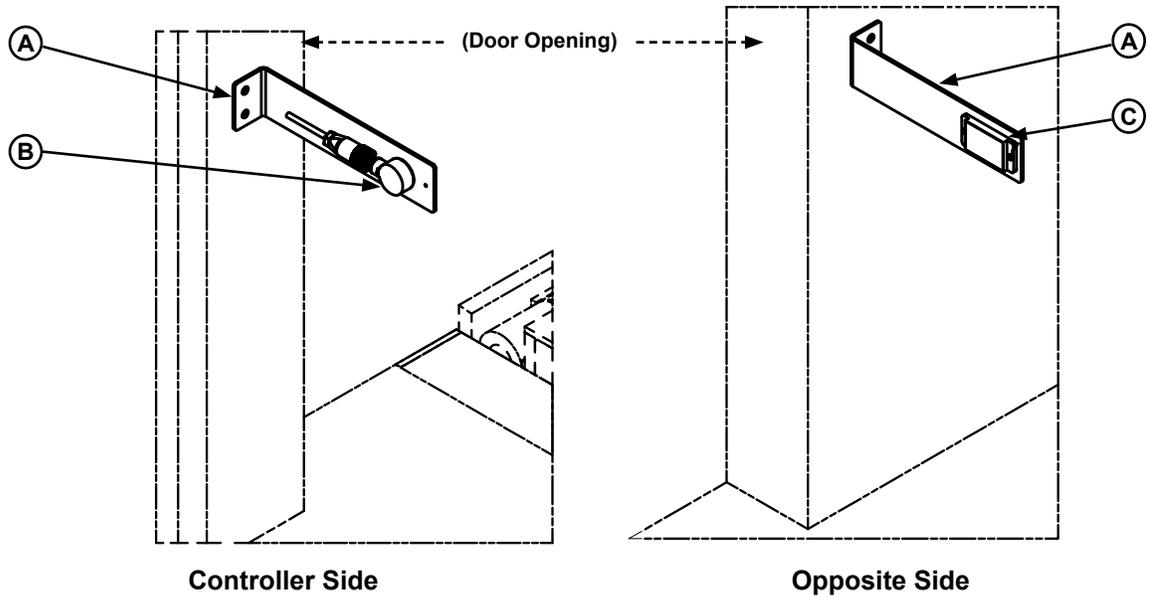

Figure 18
2. Review the included installation instructions. Choose a mounting location for the brackets (**A**) that will not interfere with the door track and provides an obstructed path between the sensor (**B**) and its reflector (**C**). See **Figures 18 and 19**.
7. Then install the sensor on the bracket beneath the iDock controller (**D**). Position the sensor so that its connector is parallel with the bracket and pointing toward the wall. See **Figure 18**.